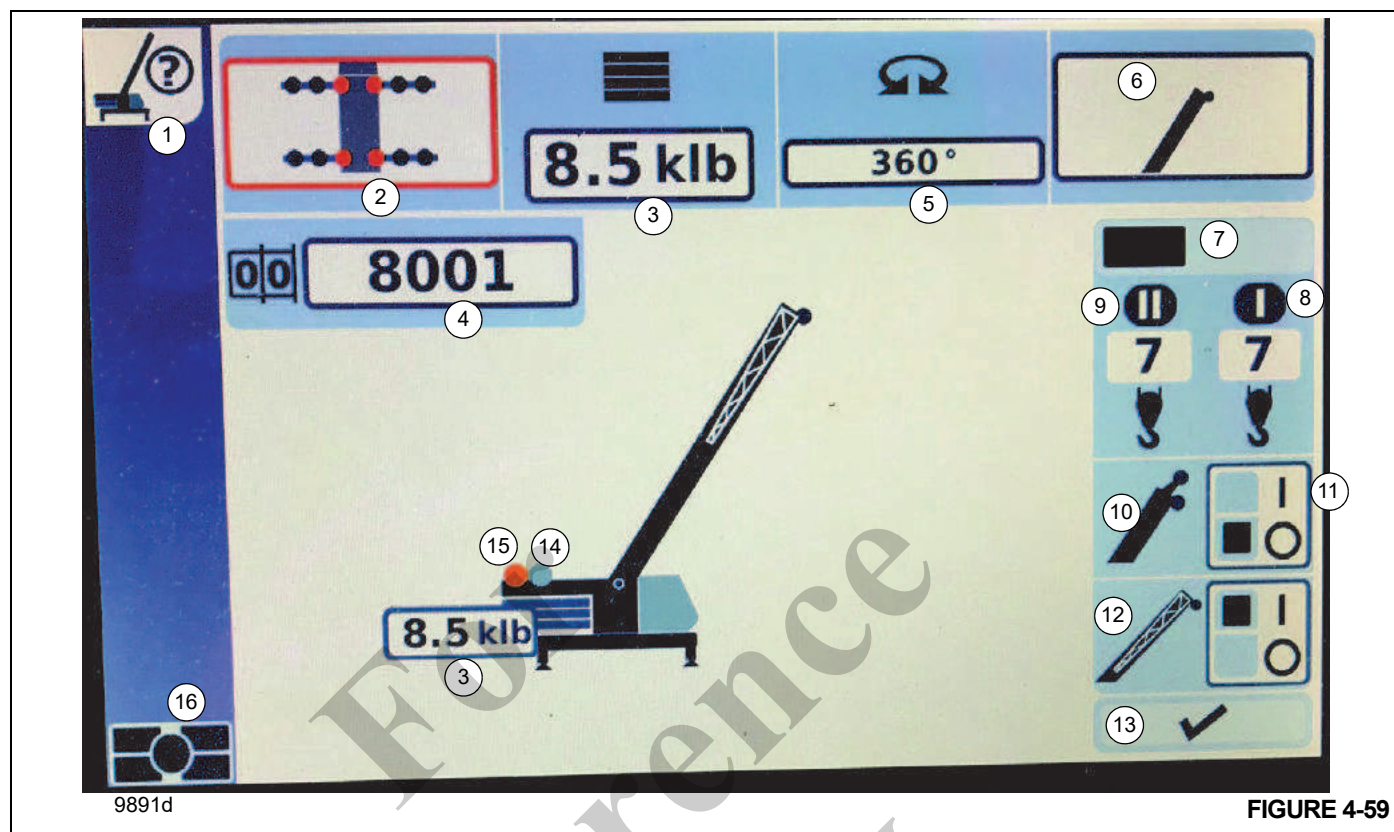

FIGURE 4-59
The RCL Configuration Screen (Figure 4-59) appears on the RDM when the Crane Setup Group Icon (1), (Figure 4-59) is selected.
The operator will select (program) the data according to crane setup. Refer to Figure 4-59 to program the RCL.
Using the Jog Dial (5), (Figure 4-22), select the code number field (4), (Figure 4-59), then press the Jog Dial (5), (Figure 4-22). The number will turn white with an orange background.
Using the Arrow Buttons (4), (Figure 4-21) on the Navigation Control Pad at the RDM, select the code number field (4), (Figure 4-59). The box around the number will turn orange. Then press the OK Button (5), (Figure 4-21). The number will turn white with an orange background.